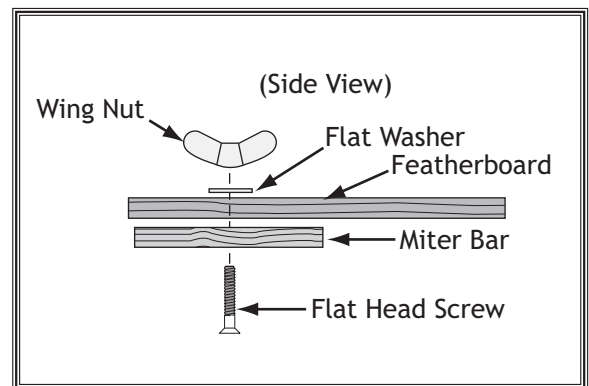

Figure 73. Assembling miter slot featherboard components.
8. Assemble the miter bar and featherboard with a $\frac{1}{4}$ "-20 x flat head screw, flat washer, and a wing nut (see **Figure 73**). Congratulations! Your featherboard is complete.